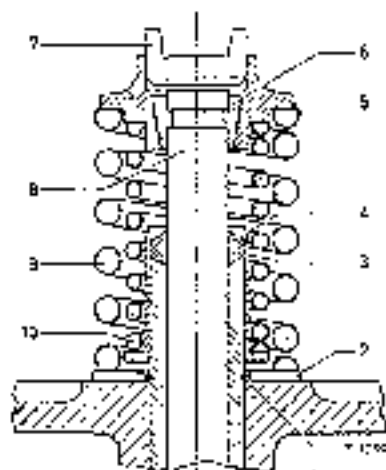

Fig. 01-4/20 c
A sealing ring holder (3) in the shape of a bell enveloping the valve guide is soldered to the valve spring plate (5) at the exhaust valve (8). The rubber sealing ring (4) is inserted into sealing ring holder from below (Fig. 01-4/20 d).
Valve stem sealing of inlet valve (8) is effected by a sealing ring holder (3) by means of a Silicon sealing ring (4). The sealing ring holder is pushed over the valve guide and held in place by the inner valve spring (10) (Fig. 01-4/20 c).